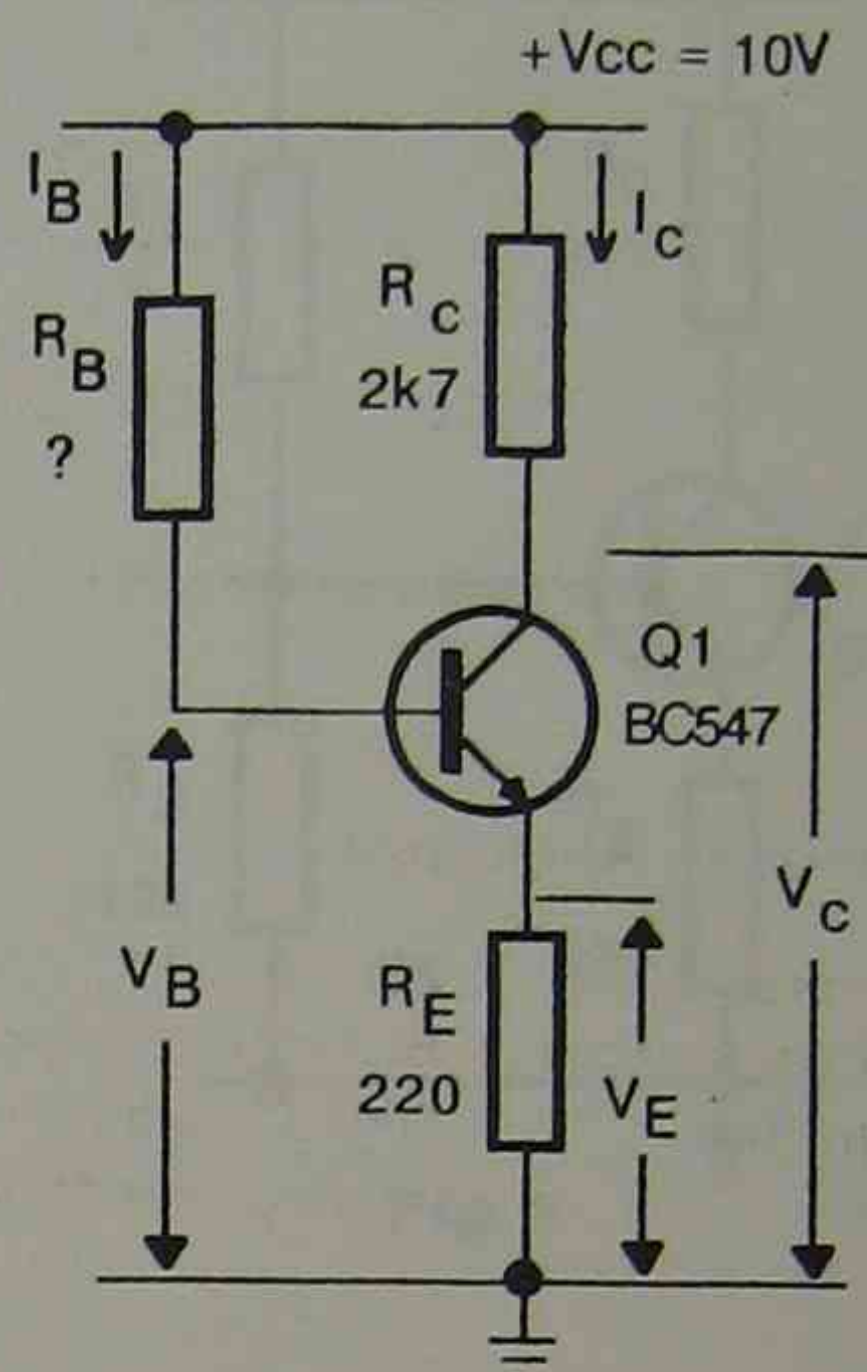

Fig.2
Resistors: 220; 1k; 2k7; 12k; 1M; values as calculated for Figs.2 and 3; 1/4W. 1 each;
(f) For the circuit of Fig.2, calculate:
- (g) Construct the circuit of Fig.2 using the transistor with the middle value of β (transistor 2).
- (a) For the circuit of Fig.2, if the current gain of the transistor rises, identify whether the collector voltage will rise or fall. Give a brief explanation for your answer.
- (b) Compare the effect on the collector voltage of replacing the transistor with one having different values of current gain for both Figs.2 and 3. Briefly explain any differences in the performance of both circuits.
- (c) If the emitter resistor of Figs.2 and 3 were removed, identify the effect on the stability of the two circuits.